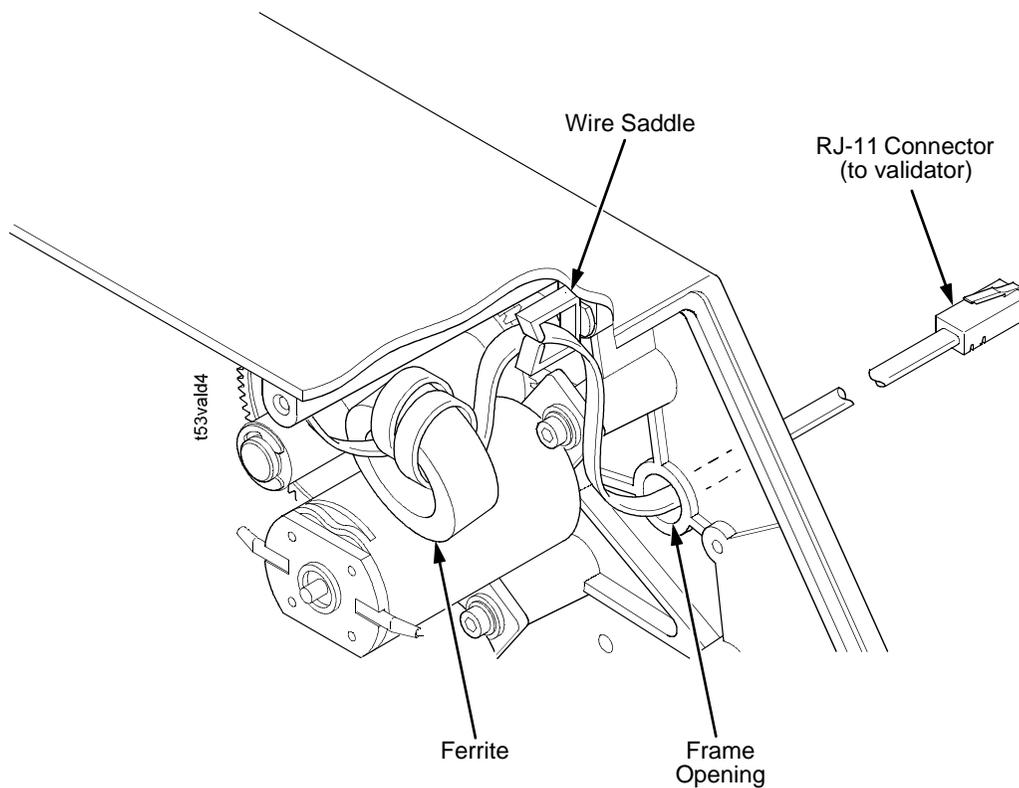

**Figure 4. Inserting the Wire Saddle Into the Frame Boss**
6. Insert the wire saddle into the frame boss. (Figure 4.)